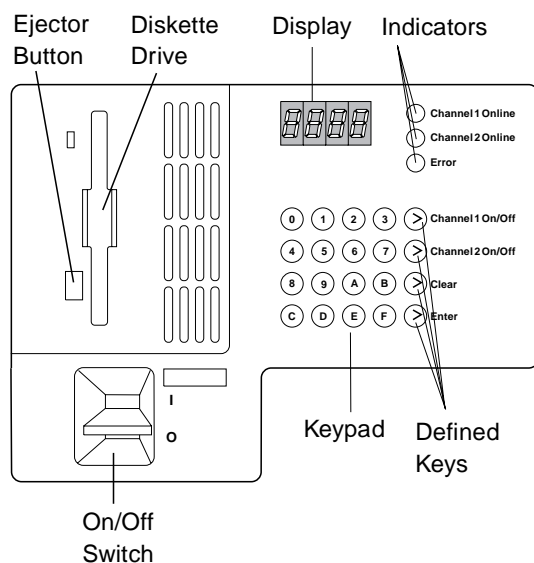

Figure 1. Processor Panel.
- 2. Switch the power **ON (I)** to the processor (See Figure 1 on page 5.